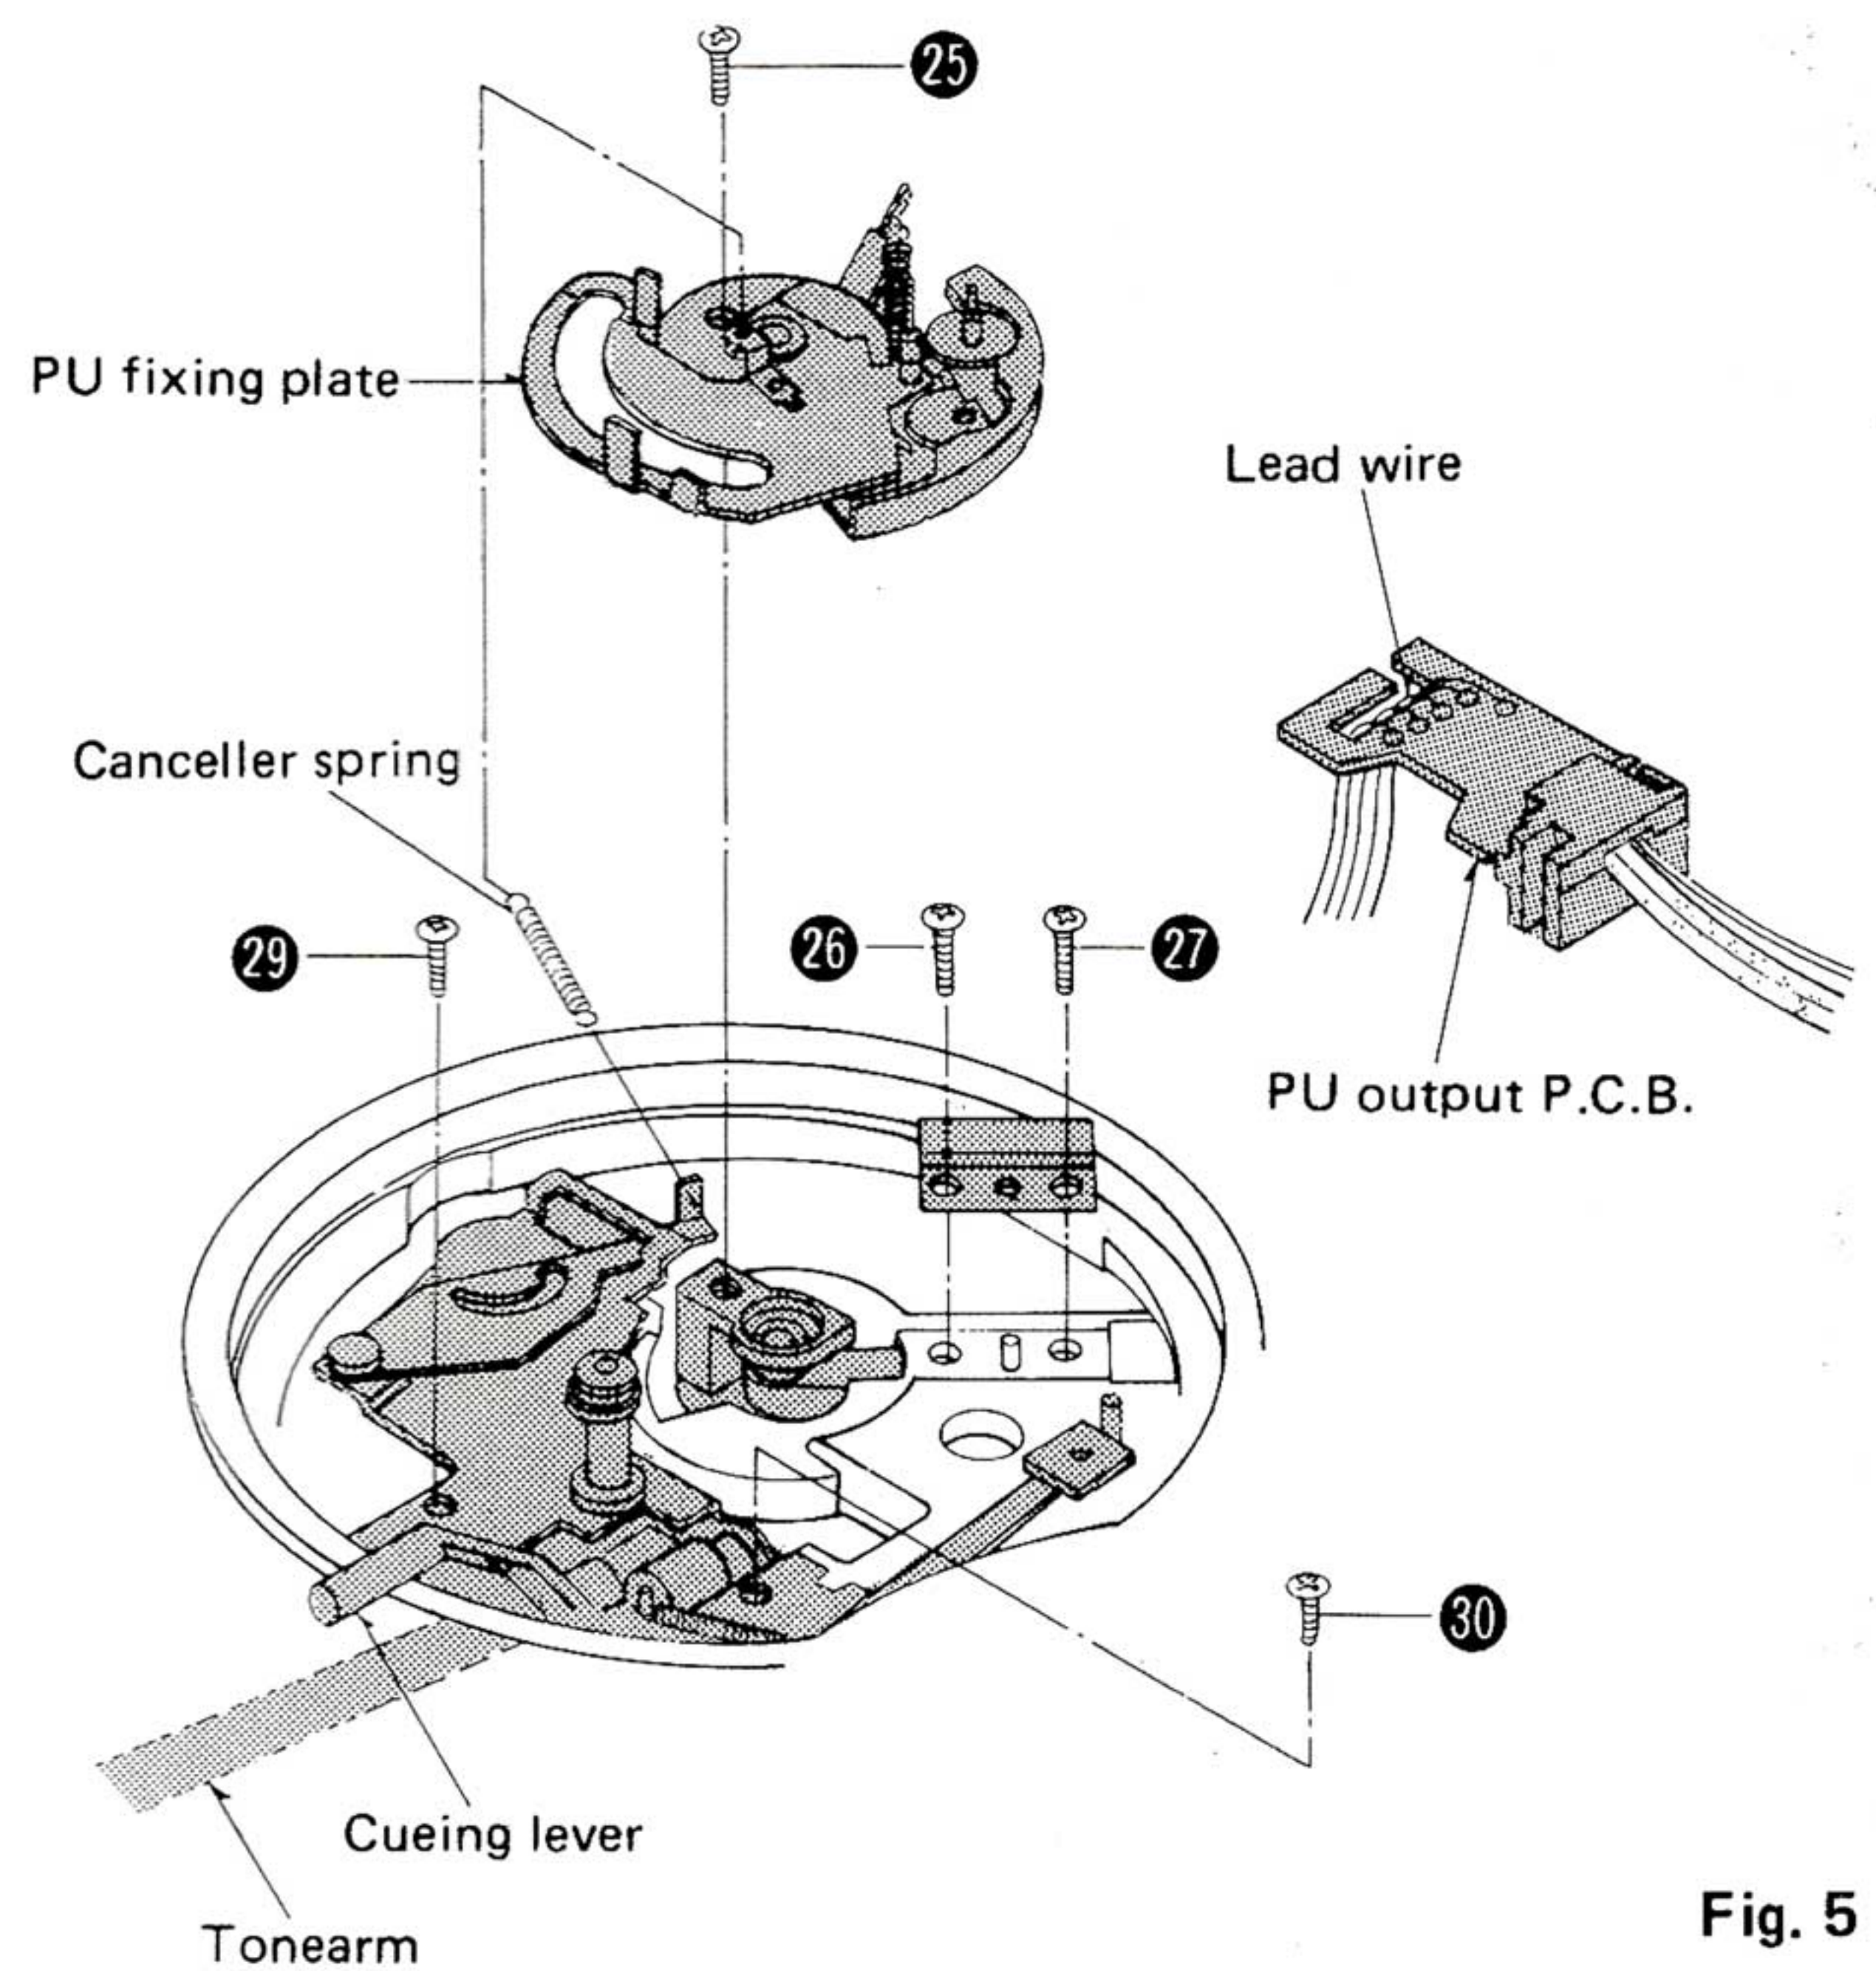

Fig. 5
2. Remove the PU fixing plate setscrew ㉕ and canceller spring. (See Fig. 5)
3. Unsolder the 5 lead wires from the tonearm. (See Fig. 5)
4. Remove the tonearm setscrews ㉖ and ㉗. Then the tonearm can be removed. (See Fig. 5)
8. Remove the lift base plate setscrews ㉙ and ㉚. Then, the lift base plate can be removed. (See Fig. 5)